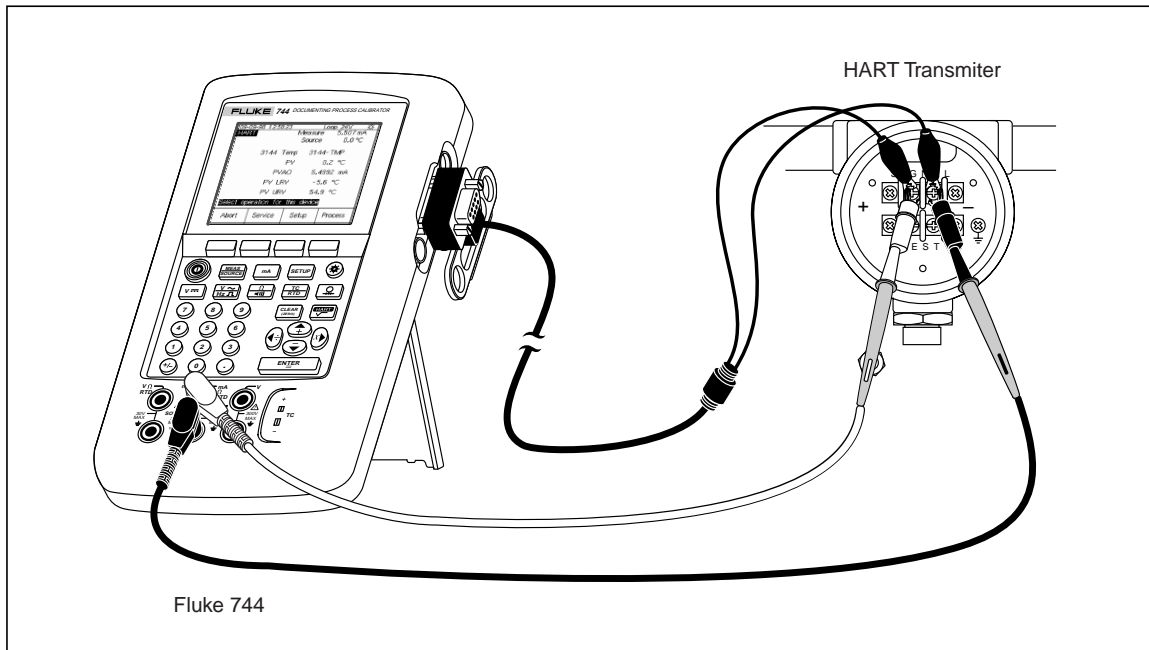

Figure 15. HART Mode Verification Connections
1. Connect the 744 to the HART transmitter as shown in Figure 15.